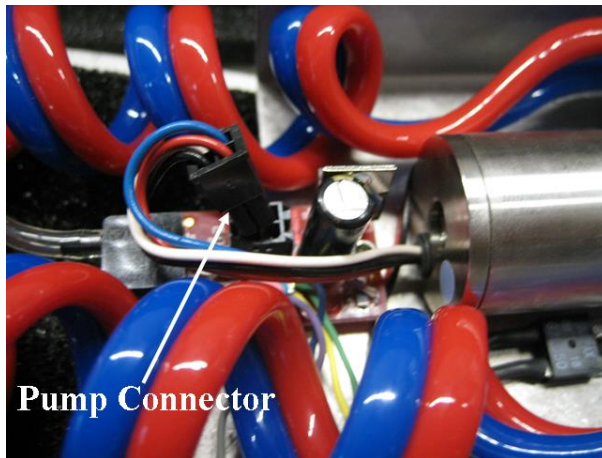

FIGURE H-8. Location of pump connector in CPEC300 pump electronics
8. Remove pump connector from the pump electronics (FIGURE H-8).
3. Reattach the pump connector to the pump electronics (FIGURE H-8).